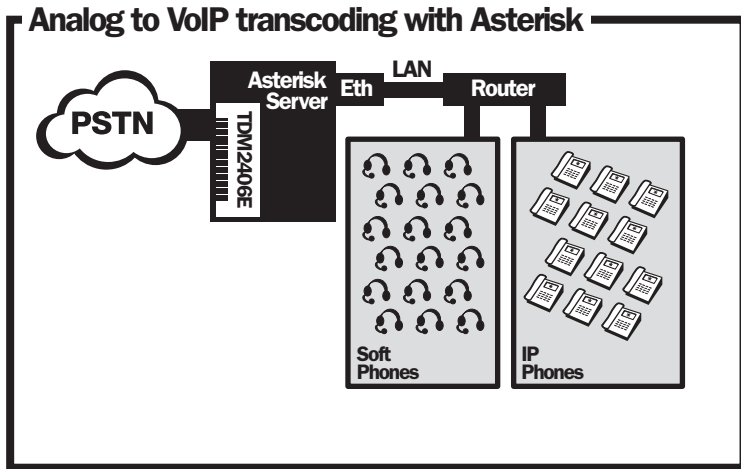

Figure 4: Sample Application - Analog to VoIP Transcoding
- Figure 4: Sample Application - Analog to VoIP Transcoding .. 18